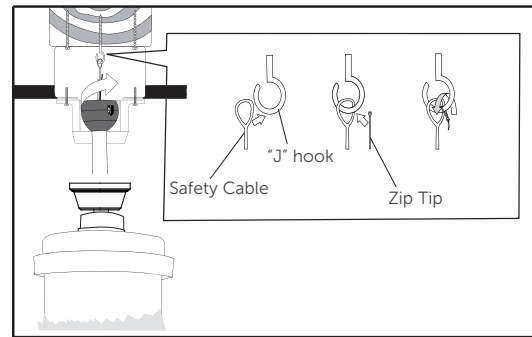

Fig. 4
8. Lift fan onto the mounting bracket. Turn housing until hanging ball seats itself into ball socket (listen for click). For added security, attach safety cable from fan unit to "J" hook in outlet box. Secure by looping zip tie through safety cable and "J" hook. Tighten zip tie securely (Fig. 4).